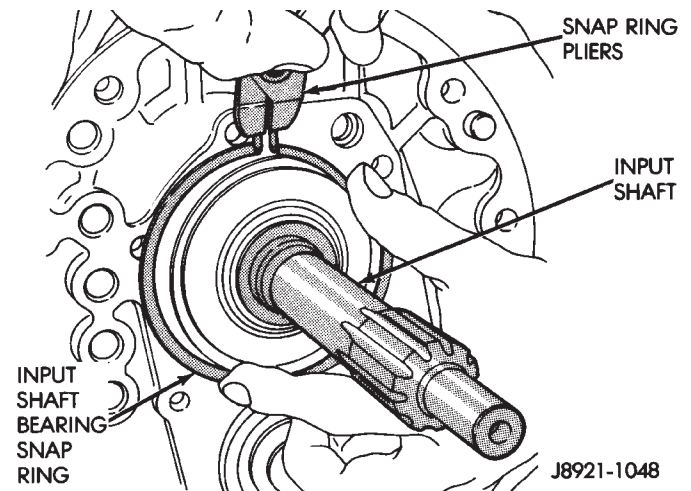

Fig. 30 Remove Input Shaft Bearing Snap-ring
- (21) Remove input shaft bearing snap-ring (Fig. 30).
- (22) Remove countershaft front bearing snap-ring.